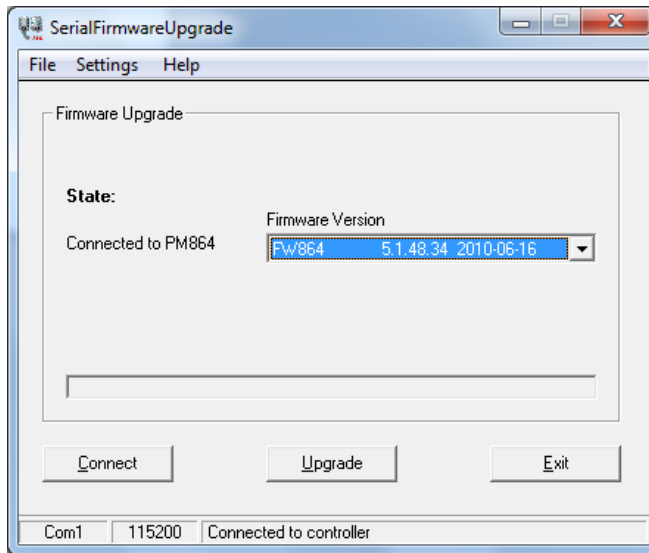

Figure 20. Serial Firmware Upgrade Dialog Box
- a. If the connection is correct, then the Serial Firmware Upgrade dialog box appears as shown in Figure 20.